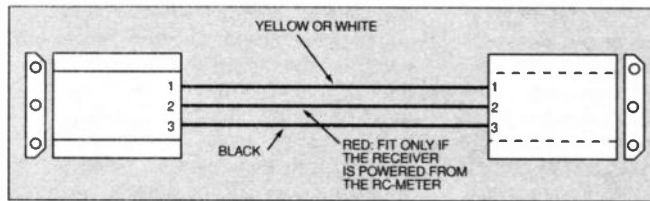

Fig.5. Interconnecting flying lead configuration.
yellow (or white) wires as shown in Fig.5. Ensure that the receiver's ground (black) is connected to PL1 (B) and the yellow pulse output is connected to PL1 (Y). If the RC-Meter is powering the receiver then the red lead must be connected to PL1 (R).